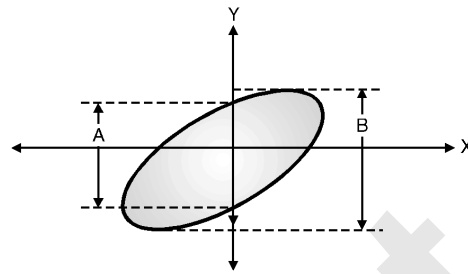

Fig. 1.11.2 : Lissajous pattern for ellipse for $0^\circ < \theta < 90^\circ$
- iii. The Lissajous pattern will be an ellipse if the sine waves of equal frequency but phase shift θ between 0° and 90° are applied to the two channels of CRO. The Lissajous pattern will then be as shown in Fig. 1.11.2.